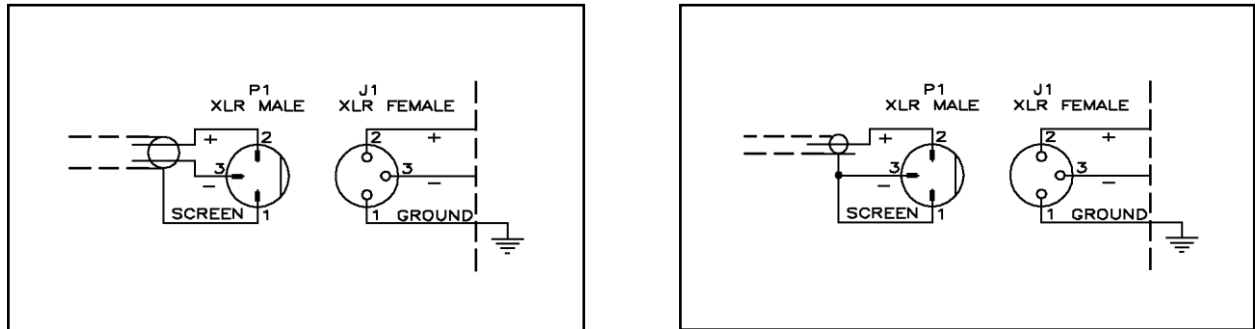

Fig.11: Feeding an XLR connector with a balanced signal (on the left) and with an unbalanced one (on the right)
- Apply hot signal terminal on pin 2 of the XLR connector, screen to both pin 1 and pin 3 as shown on fig. 11
If Mpx BNC input is used for modulation input, be ABSOLUTELY sure the internal impedance preset jumper JP1 is in the 10k Ω position. Refer to figure 11